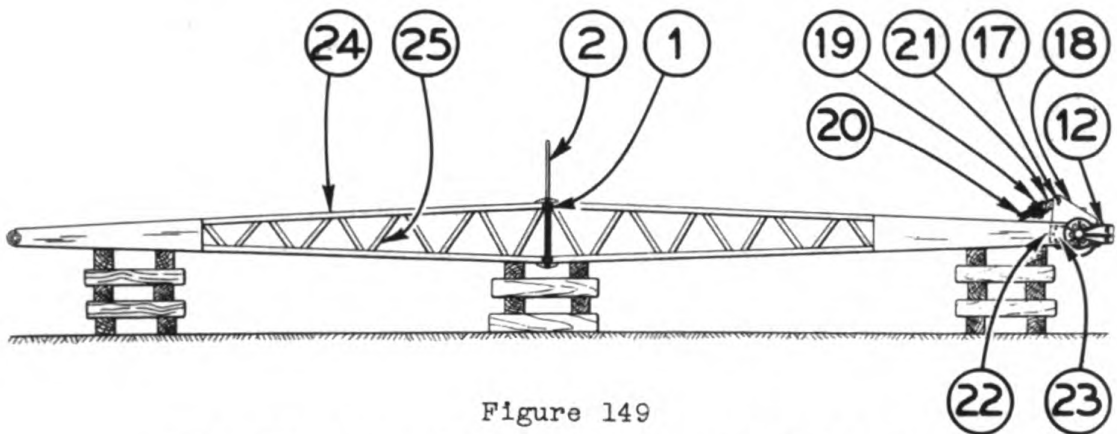

Figure 149
Crane, Clamshell, Dragline and Pile Driver boom point sheave assembly shown in Figure (150), Page (173), is disassembled by taking out bolts (3), removing cable guard (4), taking out eight bolts (5) and removing guards (6) and (7). Next, take out cotter pins (8) and remove washer (10) and spacers (11). Slowly drive shaft (9) out of yoke (12), taking off boom suspension sheaves (13), spacers (14), hoisting sheaves (15) and thrust washer (16) as they are freed from the shaft (9). To disassemble boom suspension sheave block assembly, figure 149, close and pull cotter from pin (17); take out pin and remove block assembly from bracket (18). Next close and pull cotter in pin (19); take out pin and remove sheave (20) from housing (21). Remove bolts and take off bracket (18).